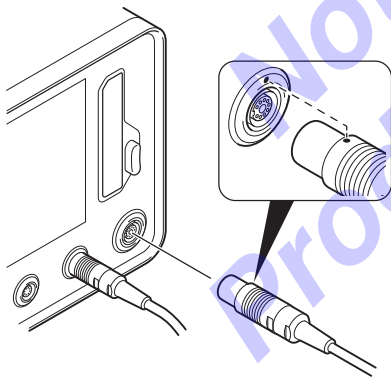

Figure 79 – Handpiece Connection
- Install the handpiece cable connector into the console handpiece port (Figure 79).